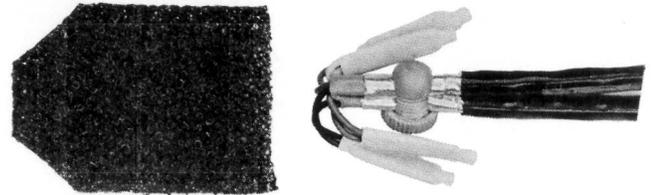

Fig. 15
- 7.02 Bond both shields together with the special connector contained in the C-1018 Mini-Cap Butt Splicing Kit. See Fig. 15.
- 7.04 Splice the conductors, color to color, with B Wire Connectors using an approved tool. Fold back as shown in Fig. 15.